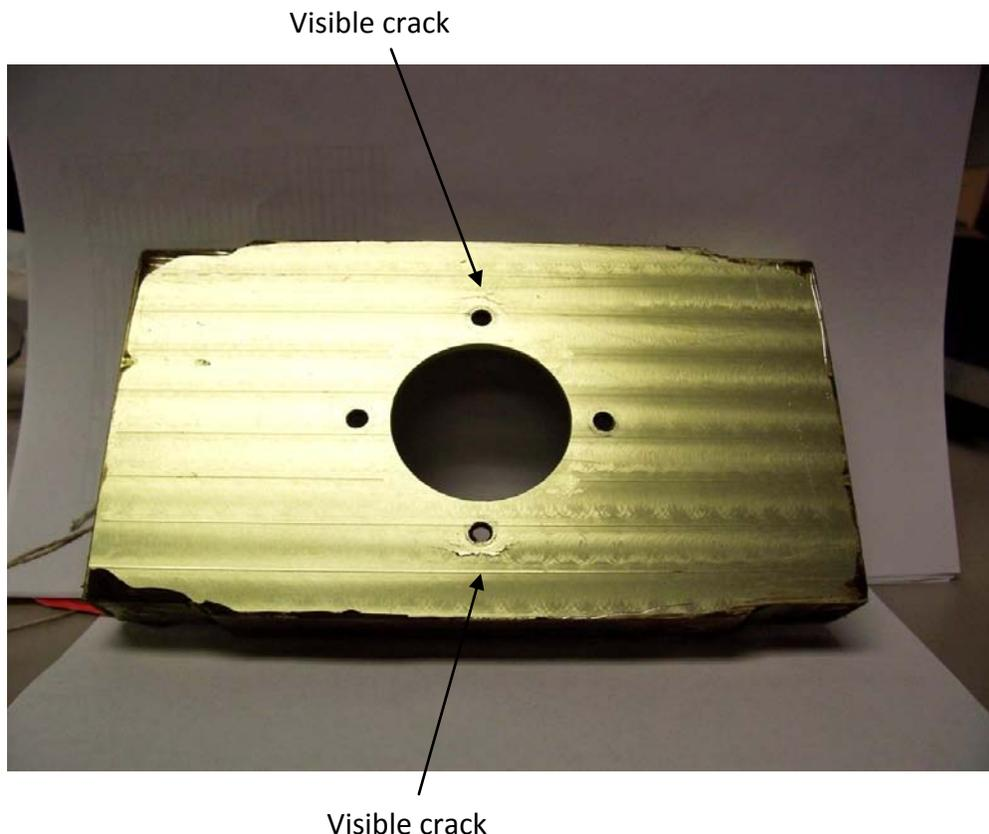
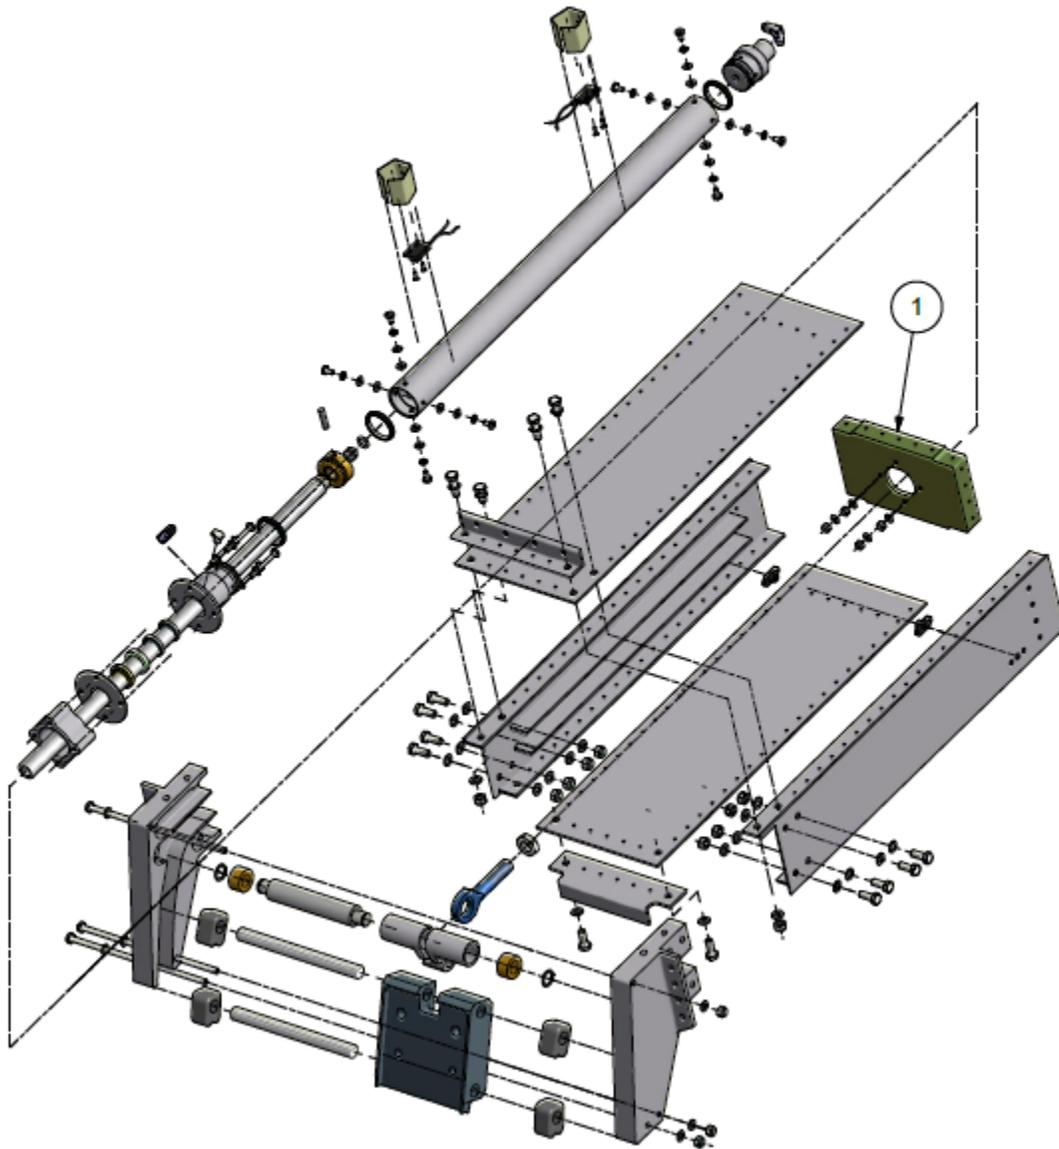

FIGURE 1
FIGURE 2
A close visual inspection must be accomplished within the next 25 hours of operation, and every 50 hours thereafter. The cracks will be best visible by looking at the forward face of the End Cap, Part #8A07201-002 through the forward open end of the Nose Gear Box. It appears that the cracks start just above the top mounting bolt and just below the bottom mounting bolt as shown in Figure 1. If cracks are found the End Cap Part #8A07201-002 must be replaced with the new revision, End Cap, Part #8A07201-002, Revision F, dated May 2, 2012 or later. After inspection and/or replacement, re-adjust the gear "down" over-center lock so that it hits the end of the lock-up track has little to no preload pressure on it since the preload pressure would cause extra stress at the Cylinder Mounting Flange and the End Cap.
NOTES: The following figure 1 shows part that is cracked and figure 2 item 1 shows its location on the nose box assembly. This is the forward side of the part which can be seen looking into the open (front) end of the nose gear box. No disassembly should be required to examine this area. The area should be thoroughly cleaned before inspecting. Use good lighting. If in doubt, dye penetrent inspection can also be accomplished.
If evidence of cracking is found in Nose Box End Cap either by visual or dye penetrant inspection per figure 1, the following instructions will be accomplished to replace damaged Nose Box End Cap: